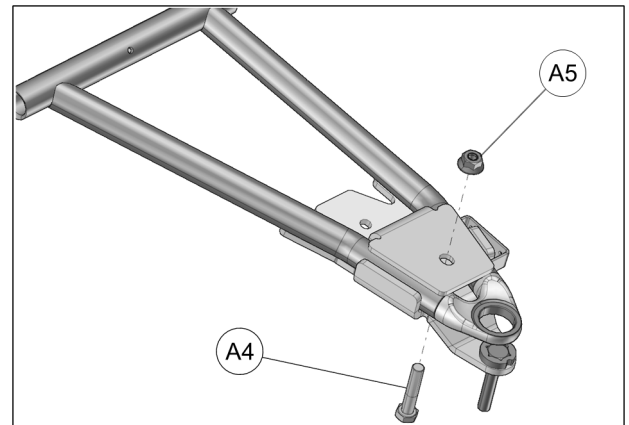

Fig. 17
6. Insert the M10x50mm bolt (A4) through the bottom and secure the two parts together with the nut (A5) provided. Tighten assembly to 50 N•m [37 lb•ft] of torque. See Fig. 17